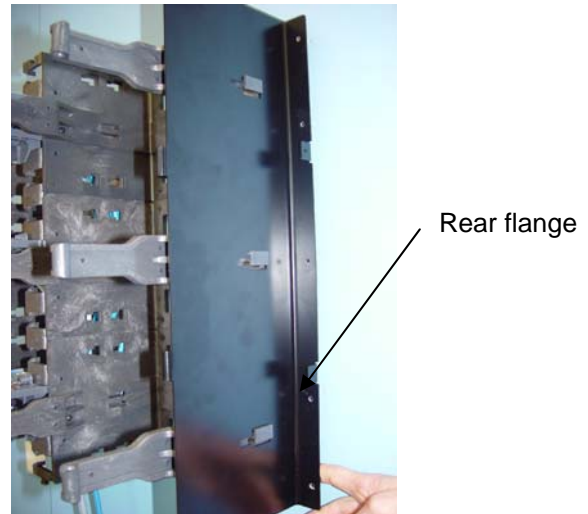

Figure 10. Side Panel in Upright Position
1. Remove one side panel from its packaging. Orient the side panel in relation to the Vertical Trough and wall surface as shown in Figure 10 below for mounting on the right side.